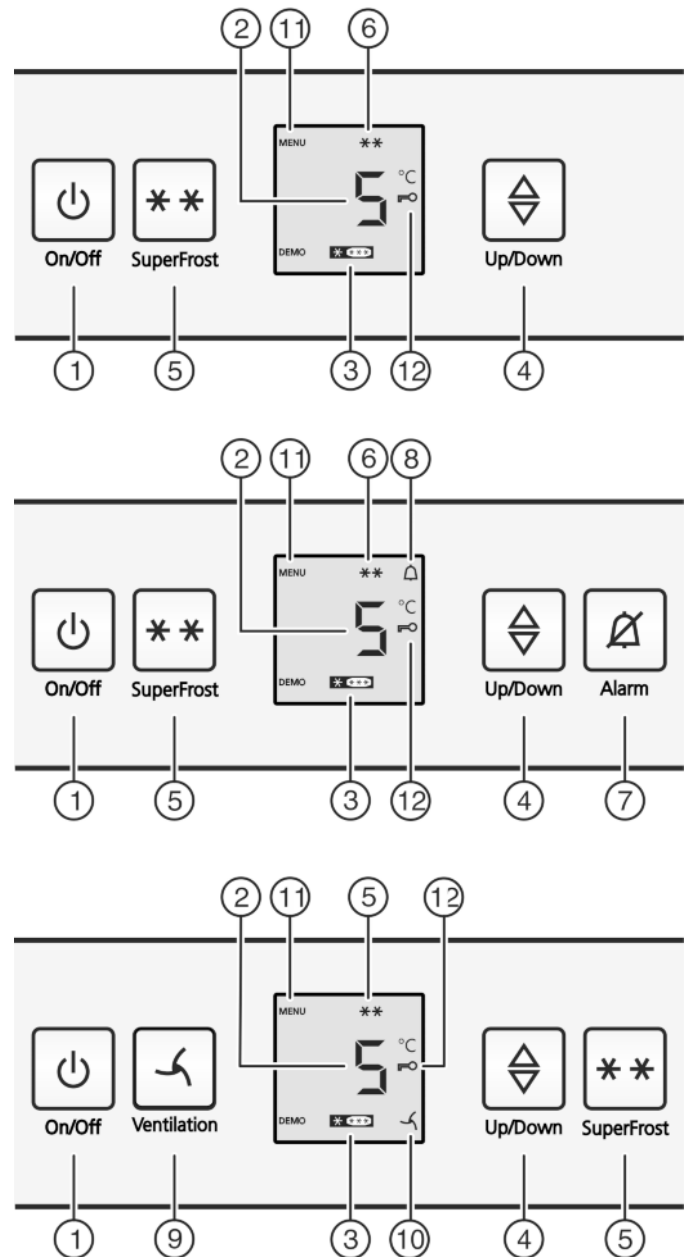

Fig. 2
- ▶ Press the On/Off button *Fig. 2 (1)*.
- ▶ Activate setting mode: press the SuperFrost button *Fig. 2 (5)* for approx. 5 seconds.
- ▷ The Menu symbol *Fig. 2 (11)* is shown on the display.
- ▶ Briefly confirm with the SuperFrost button, *Fig. 2 (5)*.
- ▷ The child lock symbol *Fig. 2 (12)*, lights up on the display.
- ▶ Briefly press the On/Off button *Fig. 2 (1)*.
- ▷ The child lock symbol *Fig. 2 (12)* goes out.
- ▶ Press alarm button *Fig. 2 (7)*.
The temperature display and the alarm symbol *Fig. 2 (8)* flash at the same time.
The audible alarm is automatically silenced, the alarm symbol *Fig. 2 (8)* goes out and the temperature display stops flashing when the temperature is sufficiently cold again.